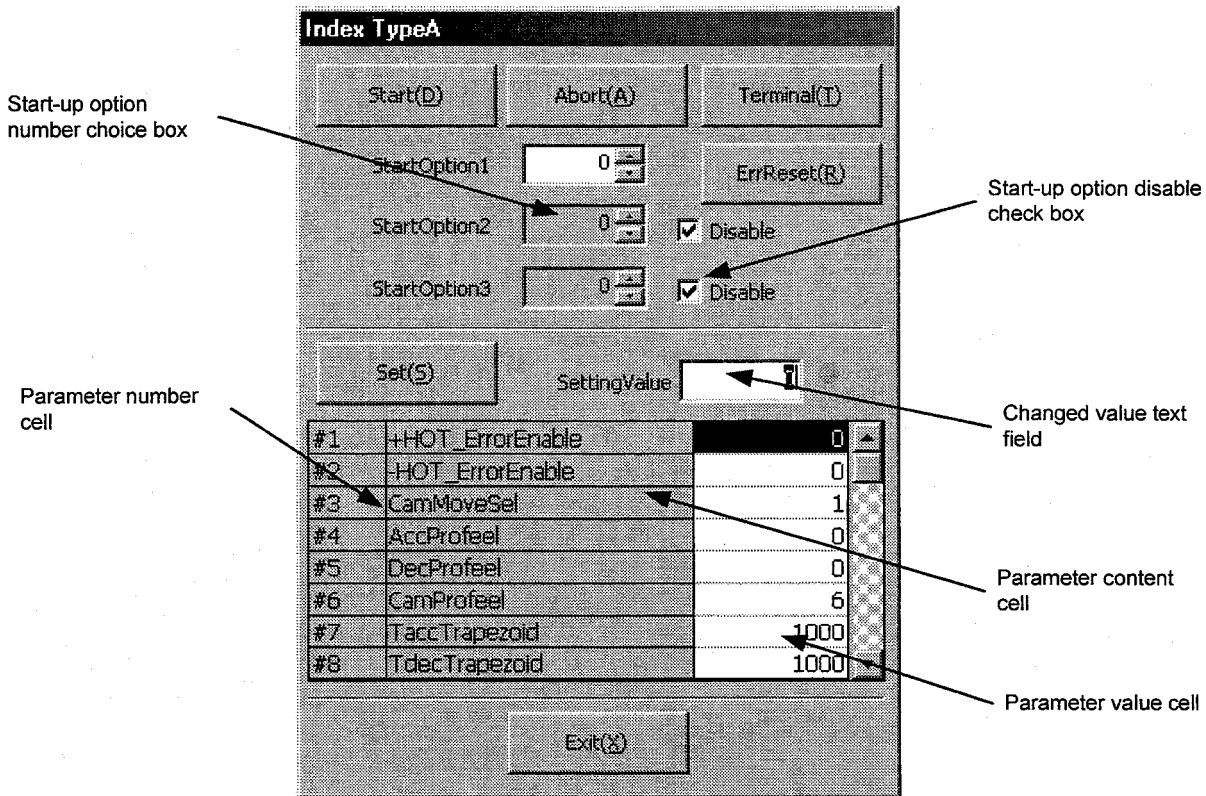

Figure 7.27 "Index TypeA" dialog box
- 1) Click "*Terminal (T)*."
Click "IndexTypeA (A)" in the "DriveMenu" dialog box to display the "Index TypeA" dialog box (see Figure 7.27). If the connection with the driver is established, the current values of the related parameters are read and can be edited.